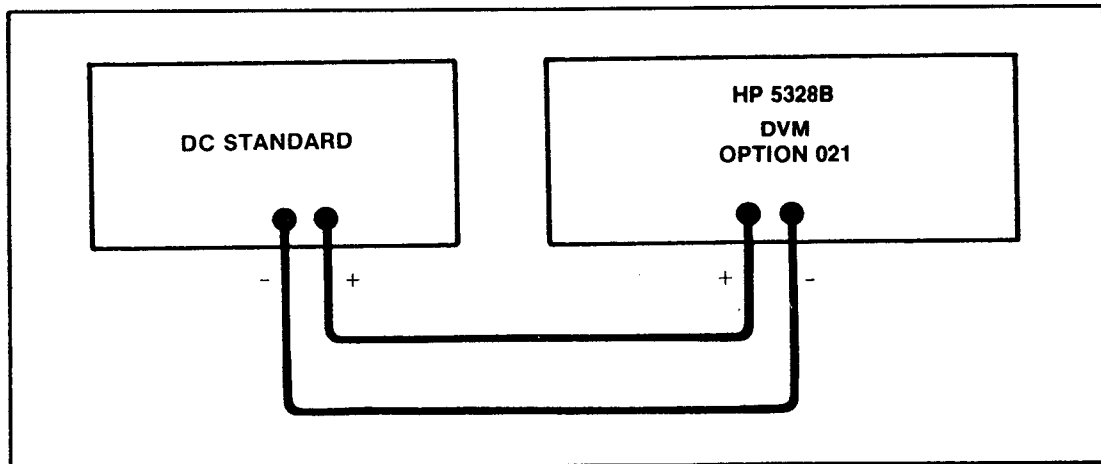

Figure 4-16. Digital Voltmeter — Test Setup
- a. Set up equipment for this test as shown in Figure 4-16.